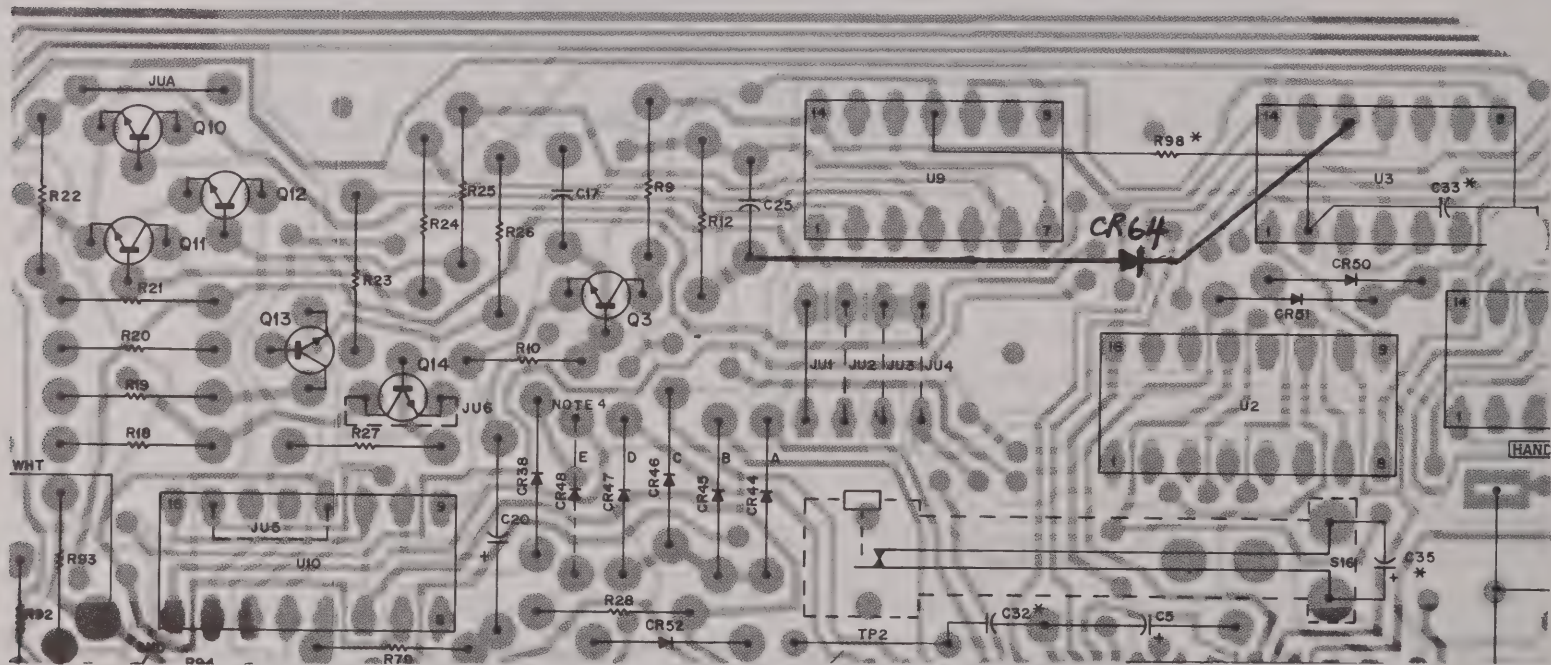

Figure II-1. Cradle Circuit Board Partial Diagram
3. To prevent the problem, a silicon diode (part number 48-83654H01) must be added to the cradle board. The diode should be added to the solder side, anode to U10 pin 9, and cathode to U3 pin 12; refer to Figure II-1 for the recommended location. Sleeving should be added to the exposed diode leads.